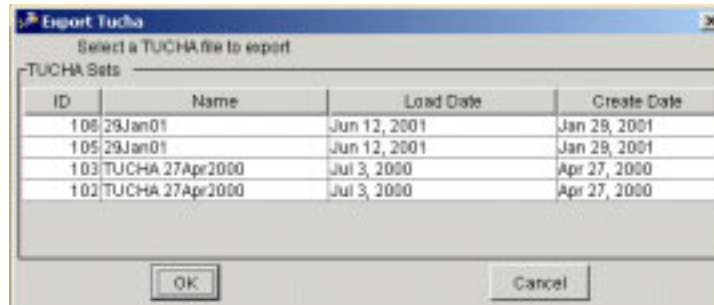

Figure 5.157 Export TUCHA Window
1. On the ETEdit (main) window, on the Reference menu, click TUCHA>Export TUCHA (ELIST format) file. The Export Tucha window opens (Figure 5.157).